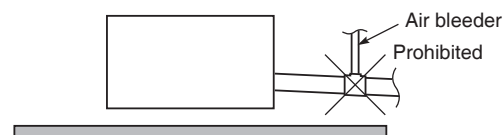

Fig. 3-9
- Do not install an air bleeder as this may cause water to spray from the drain pipe outlet. (Fig. 3-9)